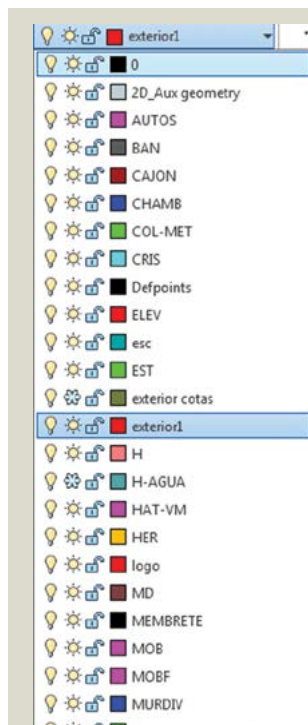

Figure 1. The Layer list on the ribbon now extends the full height of the user's screen.
Figure 1. At left is the early block design of our oxygen analyzer (front view), modeled in TurboCAD v4 or so. The dark areas are holes drilled for gas passages, and we placed an oxygen sensor in the pocket on the left front. At right is a hidden line rendering of the current assembly, modeled in TurboCAD v20.
Traditionally, oxygen analyzers have been made by screwing together a bunch of parts to provide the sample handling and bringing the sample into a block, into which the sensor is placed. All those parts contain potential leak sources and the fittings take quite a bit of skill to assemble, so this kind of design is both expensive and unreliable. We decided to put everything into a single block of metal instead, drilling holes for the gas passages and integrating all the various bits into a single assembly (**figure 1**).
4. Longer Layer drop-down list. Are you tired of scrolling through a long list of layers when you use the Layer drop-down list on the ribbon? You'll find that AutoCAD 2014 has expanded the Layer drop-down to fill the entire height of your screen (**figure 1**). This change provides you with easier access — but sadly, you won't burn as many calories.